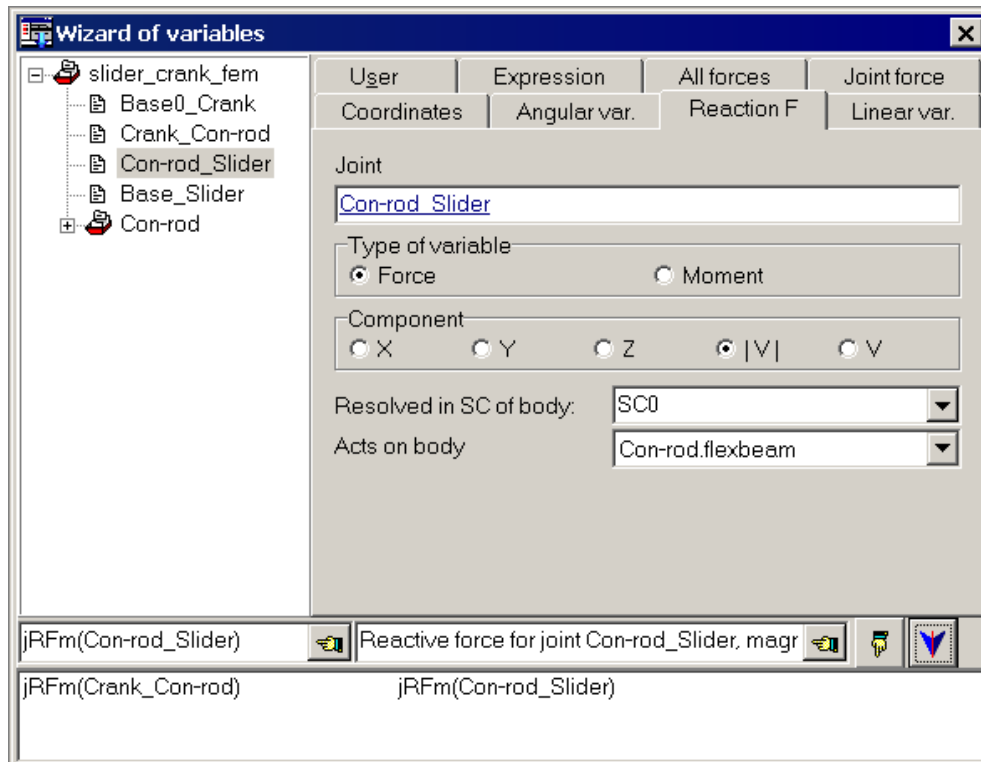

Figure 2.26.
7. Run **Wizard of variables** and create variables for reaction forces according to Fig. 2.26 and drag them to the graphical window.